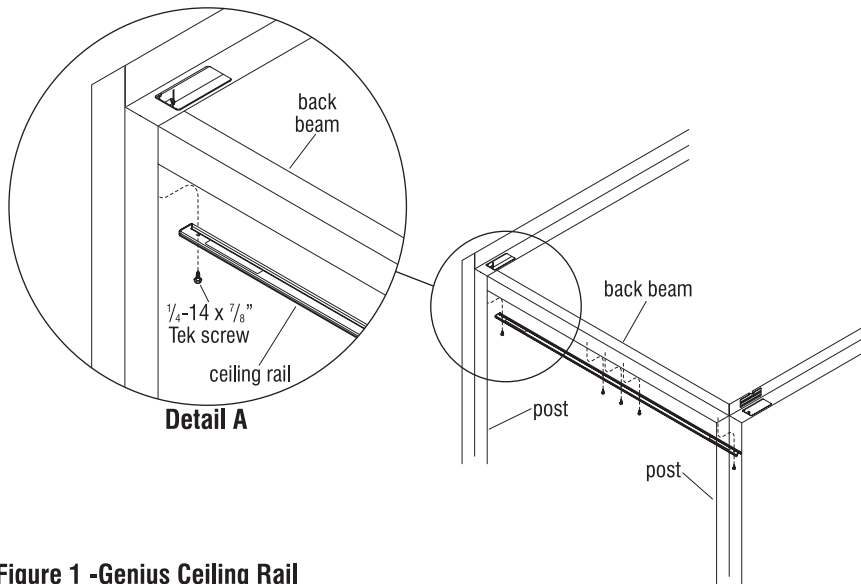

Figure 1 -Genius Ceiling Rail
1. To install a ceiling rail, first determine which pre-sized ceiling rail is required based on beam width between the posts (Figure 1).
2. Position the pre-sized ceiling rail up under the center of the beam, between posts. Align and center the ceiling rail at the underside of the beam, and install the ceiling rail to the beam using  $\frac{1}{4}$ -14 x  $\frac{7}{8}$ " Tek screws provided through each ceiling rail mounting hole (Figure 1 & Detail A).